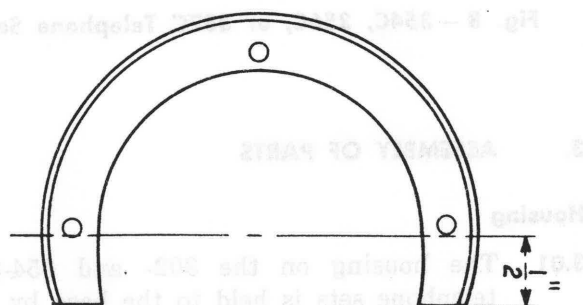

Fig. 13 — Modified 59A Dial Adapter
3.05 When a 59A dial adapter is used with a 6-type dial, it may be necessary to alter the dial adapter. Modify to provide clearance without bending between the plastic cover on the dial and the dial adapter. Cut the adapter to the approximate dimensions shown in Fig. 13. The adapter may then be used interchangeably with the 5- or 6-type dial.